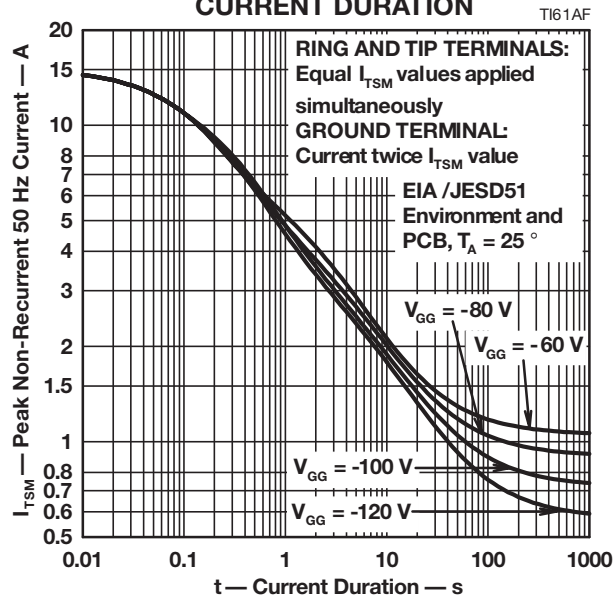

Figure 4
3. Values for  $V_{GG} = -120\text{ V}$ . For values at other voltages see Figure 4. Above  $25\text{ }^{\circ}\text{C}$ , derate linearly to zero at  $150\text{ }^{\circ}\text{C}$  lead temperature.